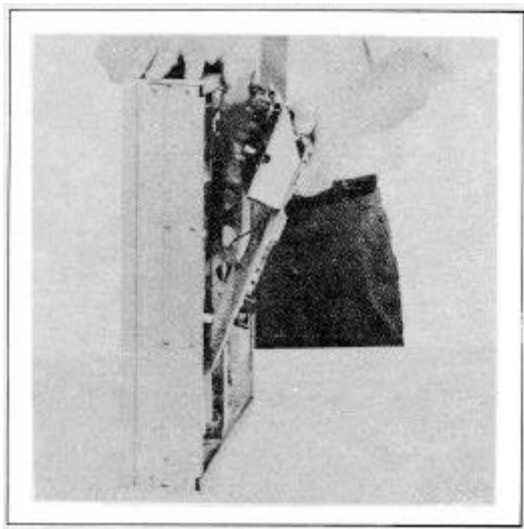

FIGURE 5-3. TILTING OUT ENTIRE CIRCUIT BOARD ASSEMBLY
b. Interior - For access to circuit side of printed circuit board, remove 3 No. 8-32 nuts holding control panel frame to recorder, 3 No. 6-32 screws holding printed circuit board, and 6 front panel knobs. Entire board/frame assembly tilts out. See Figure 5-3.